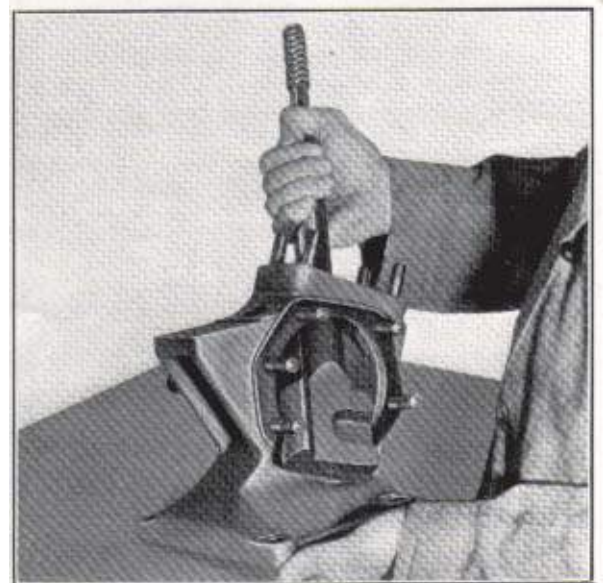

Fig. 9
6. To remove the steering worm shaft from the steering box, remove the lower rear rocker shaft housing stud and withdraw the shaft through the left-hand side of the steering box as shown in Fig. 9.